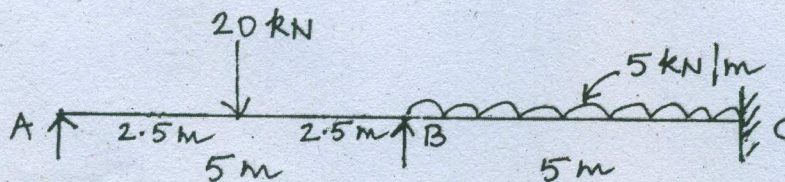

Fig. Q. 14 (a)
14. (a) Analyze the continuous beam ABC shown in Fig. Q. 14 (a) by slope deflection method and draw the bending moment and shear force diagrams. Take $EI = \text{constant}$.